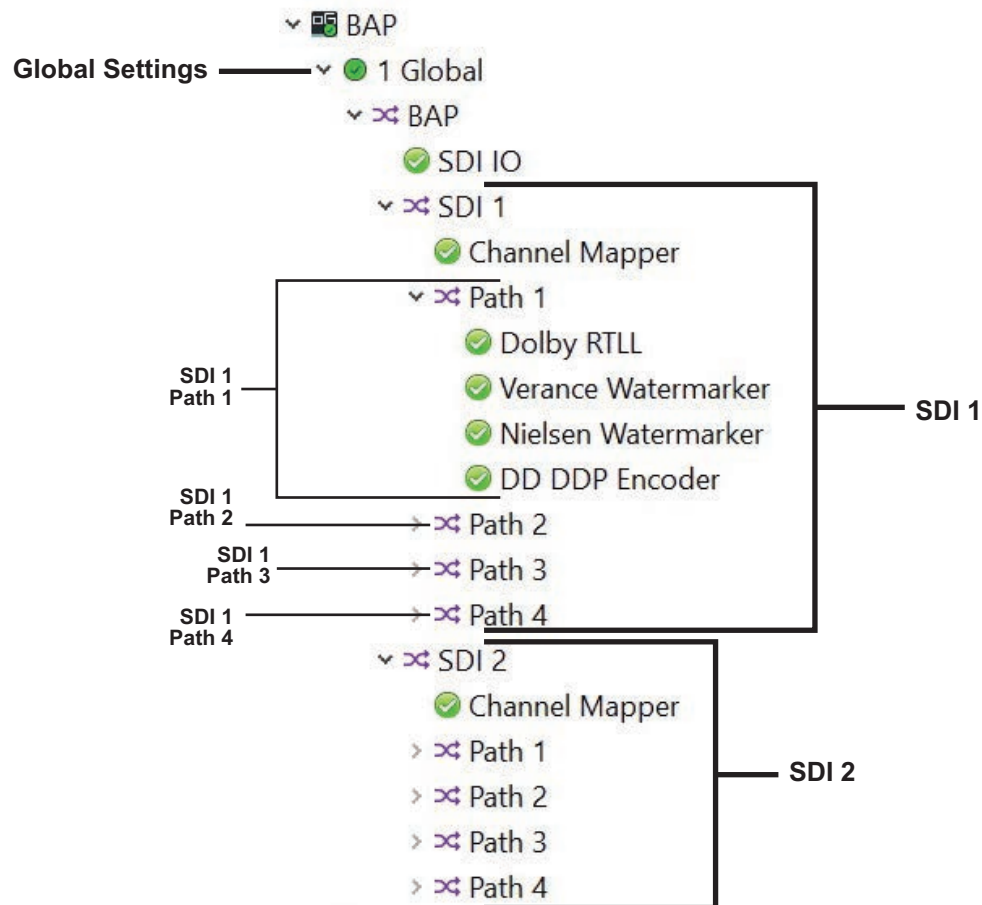

Figure 11 Example of the BAP Tree View in DashBoard
The BAP interfaces are accessed by expanding the main BAP node in the Tree View and selecting a series of sub-nodes. (**Figure 11**)
- Subsequent sub-nodes display with the nomenclature of **Path x** where **x** represents the output path for that SDI signal (there are four per SDI) and **y <interface name>** represents a setup step. Expand these sub-nodes to access the encoding and watermarking configuration options. In **Figure 11**, the user expanded the SDI 1 Path 1 node to access the Dolby RTLL, Nielsen Watermarker, and Dolby Digital (DD) DDP Encoder sub-nodes.